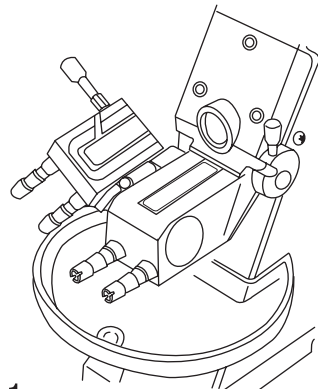

Fig. 9-1
- ① Turn the prism open-shut handle to open the secondary prism (Fig. 9-1).